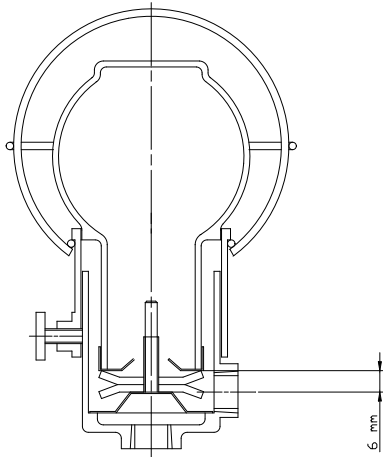

Figure 5-3
- Release thumb screw and remove bottle. Establish a measurement from the centre line of the oiler connection in bearing housing to the upper cross arm of 6 mm (0.24 in.); this can be obtained by completely screwing down the lower arm as illustrated on figure 5-3.